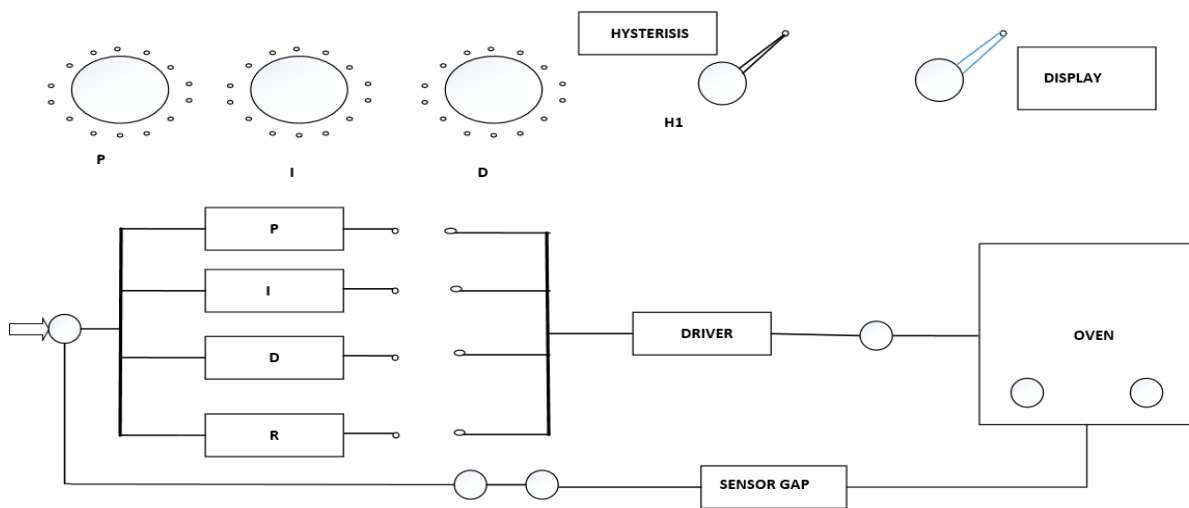

Figure 6 - Temperature controller of an oven
- Design a PID controller for the oven temperature control. Experiment with different values of K_p , K_i , and K_d to achieve desired performance for figure 6
- Compare the performance of the PID controller with alternative controllers (e.g., P, PI, PD) in terms of temperature regulation for figure 6